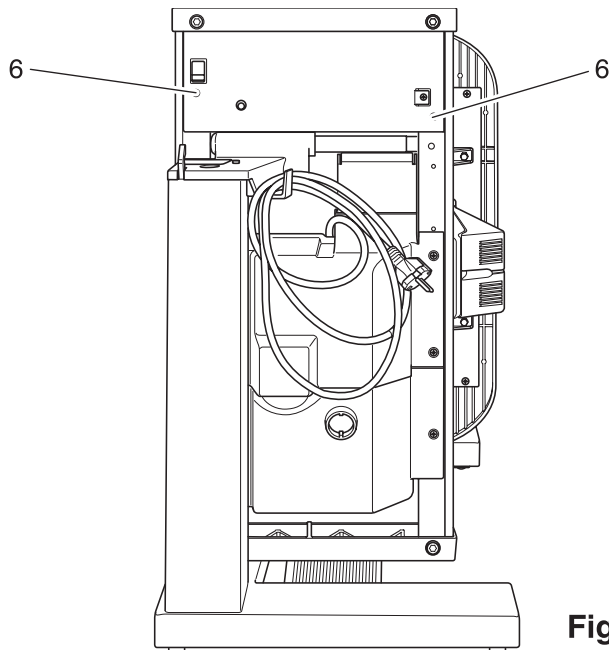

Fig. 1c
- Remove both screws 6 of the cover plate (fig. 1c).